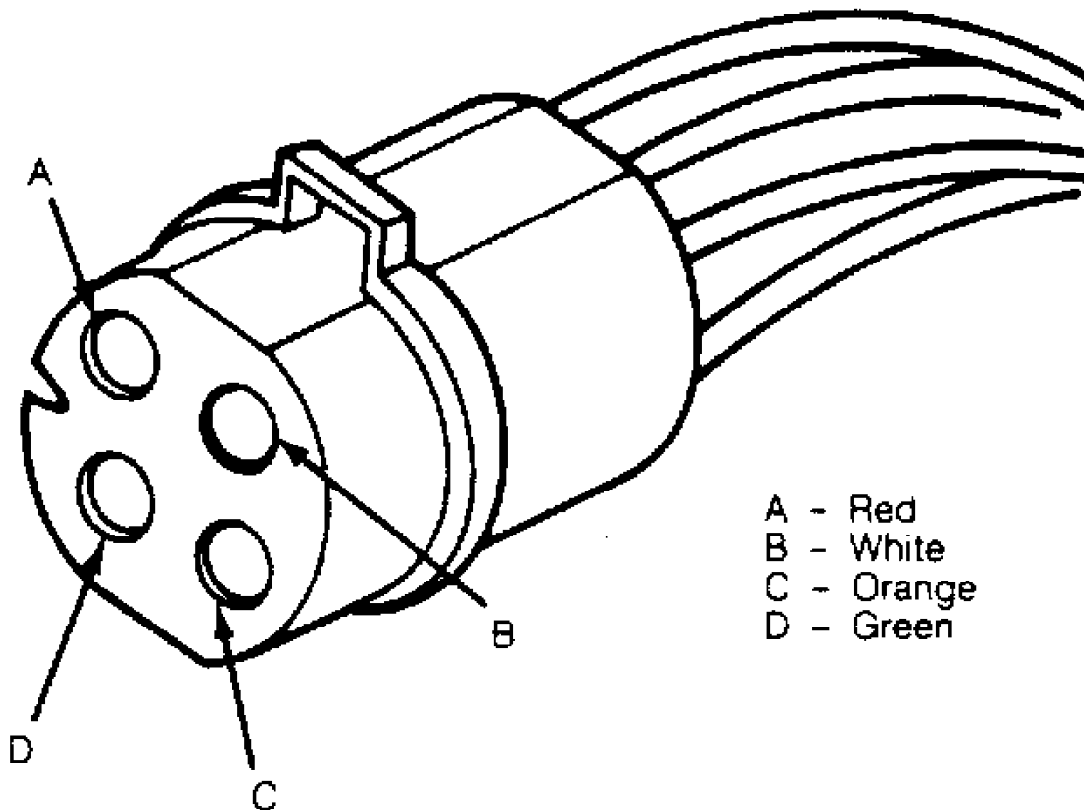

Fig. 5: Servo Wire Harness Connector (Except Grand Wagoneer)
2) Connect an ohmmeter between ground and Red. Ground and Orange. And Ground and White wire terminals of servo wire harness connector. See Fig. 5. Observe ohmmeter during each test. An infinite (open circuit) resistance should be indicated for each wire terminal.